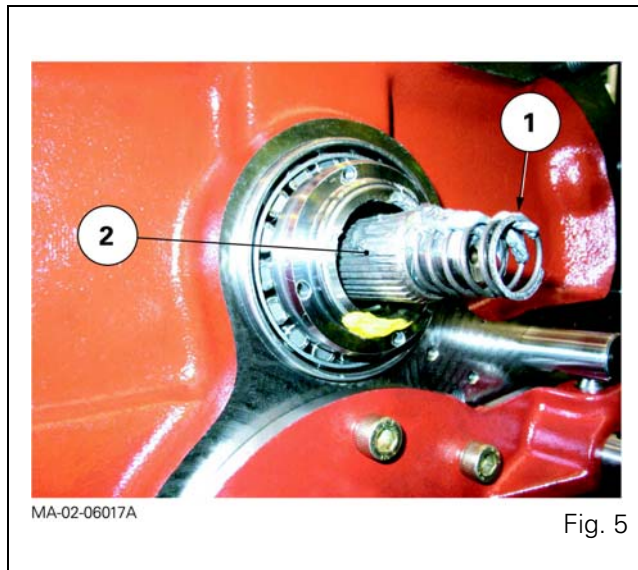

Fig. 5
33. Smear the spring (1) with miscible grease and fit it on the shaft collar (2) (Fig. 5).